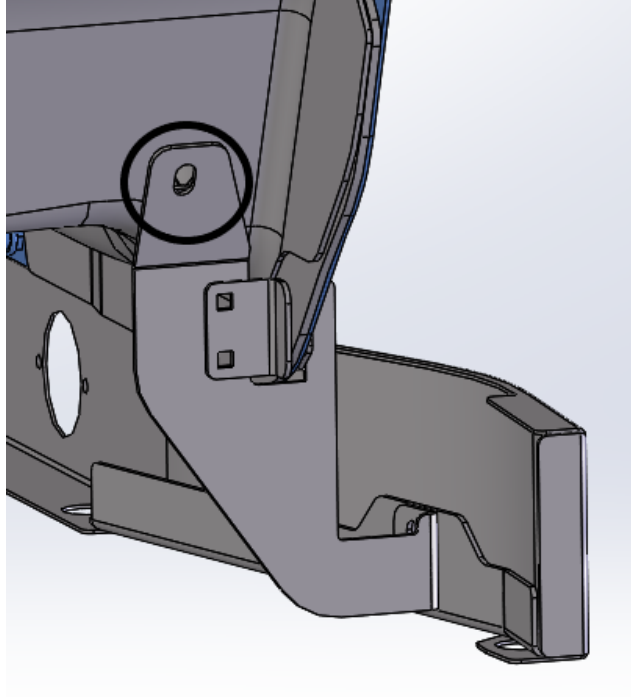

Figure 1: Assembled BD installed with OEM nutsert to be used circled (driver side shown)
- a. Assemble PNL10996022SYM to PNL10996022BD/BP as shown below in Figure 1, using the supplied 10-32 carriage bolts, flat washers, and lock washers. Leave the fasteners slightly loose to allow for adjustment. The carriage bolts should be installed from the rear side of BD/BP, so that when the brackets are installed on the truck, the locknuts will be towards the front of the truck for easier access.
- b. Install the assembled brackets onto the truck, using the supplied M6x20 hex head bolt with flat and lock washers. The bolt will install into an OEM nutsert (circled in Figure 1) and the flange & SYM bracket will sandwich the pinch weld when correctly installed. Do not fully tighten to allow for adjustment.